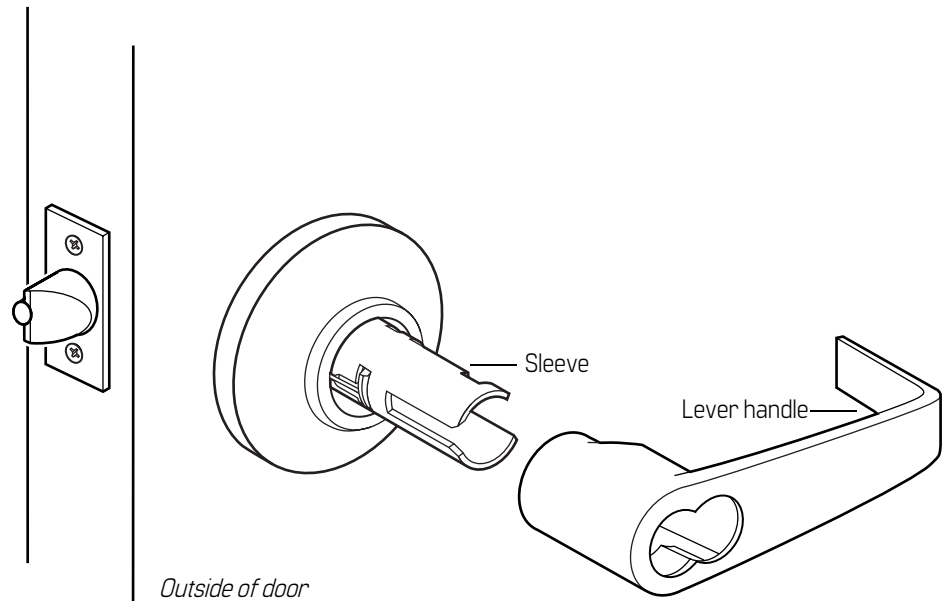

**Figure 3.2** Removing the plain lever or button lever
1. Insert the knob keeper tool into the hole on the shaft of the lever, as shown in Figure 3.2.